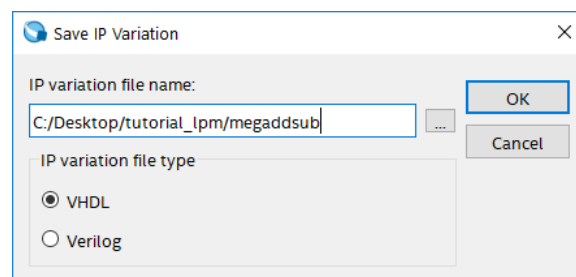

Figure 5. Create an LPM from the available library.
- In the pop-up box shown in Figure 5, choose VHDL as the type of output file that should be created. The output file must be given a name; choose the name *megaddsub.vhd* and indicate that the file should be placed in the directory *tutorial_lpm* as shown in the figure. Press OK.